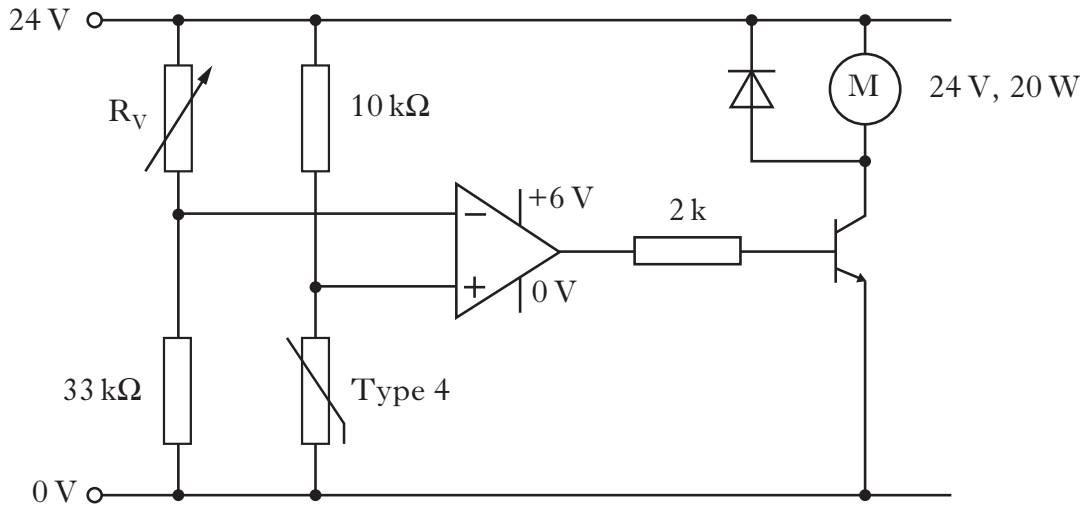

Figure Q4(a)
4. The circuit shown in Figure Q4(a) is used to control the operation of a motorised valve in a central-heating system.